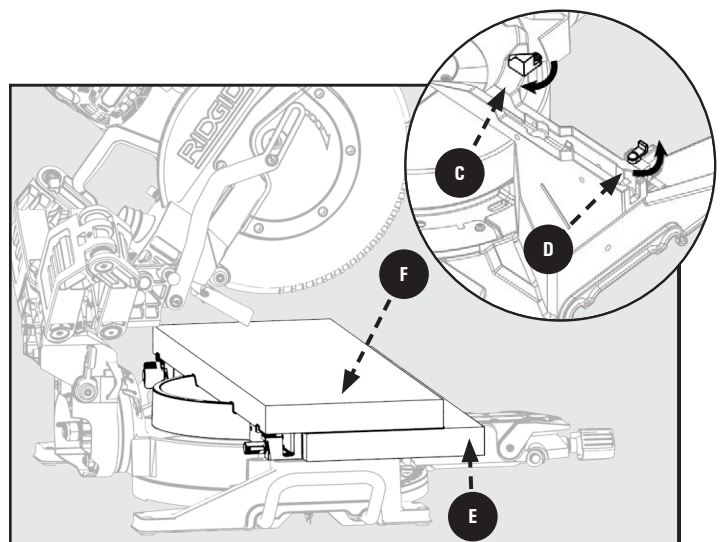

Figure 41
2. Flip the support tabs (C & D) into position. Tabs (D) are on both the left and right sides of the lower (fixed) fence. Tab (C) only exists on the right side of the lower (fixed) fence. These will function as your workpiece backstop. See Figure 41.
3. You will need to add a 2x12 (1 1/2 x 11 5/8) auxiliary table board (E) to support your large capacity workpiece (F). See Figure 41.